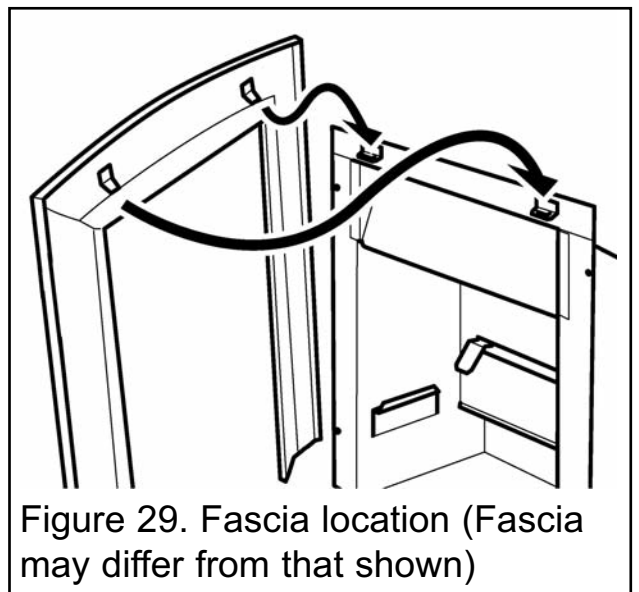

Figure 29. Fascia location (Fascia may differ from that shown)
1. Carefully lift the fascia. Place the fascia against the fireplace front surface so that the two retaining plates at the back of the fascia are directly above the two upper retaining brackets at the top of the hotbox. Lower the fascia unit making sure that the retaining plates locate fully into the brackets on the hotbox (See figure 29).